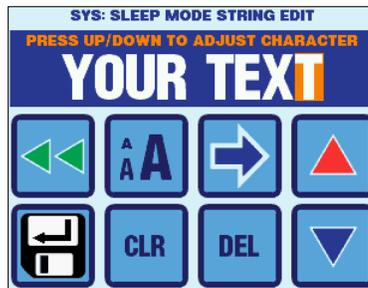

Figure 28- Sleep Mode Text Editor
**Sleep Mode Text Edit** – This special entry screen shown in Figure 28 allows the editing of the text string that will be displayed in Sleep Mode when “Custom Text” is selected as the Sleep Mode Display parameter.